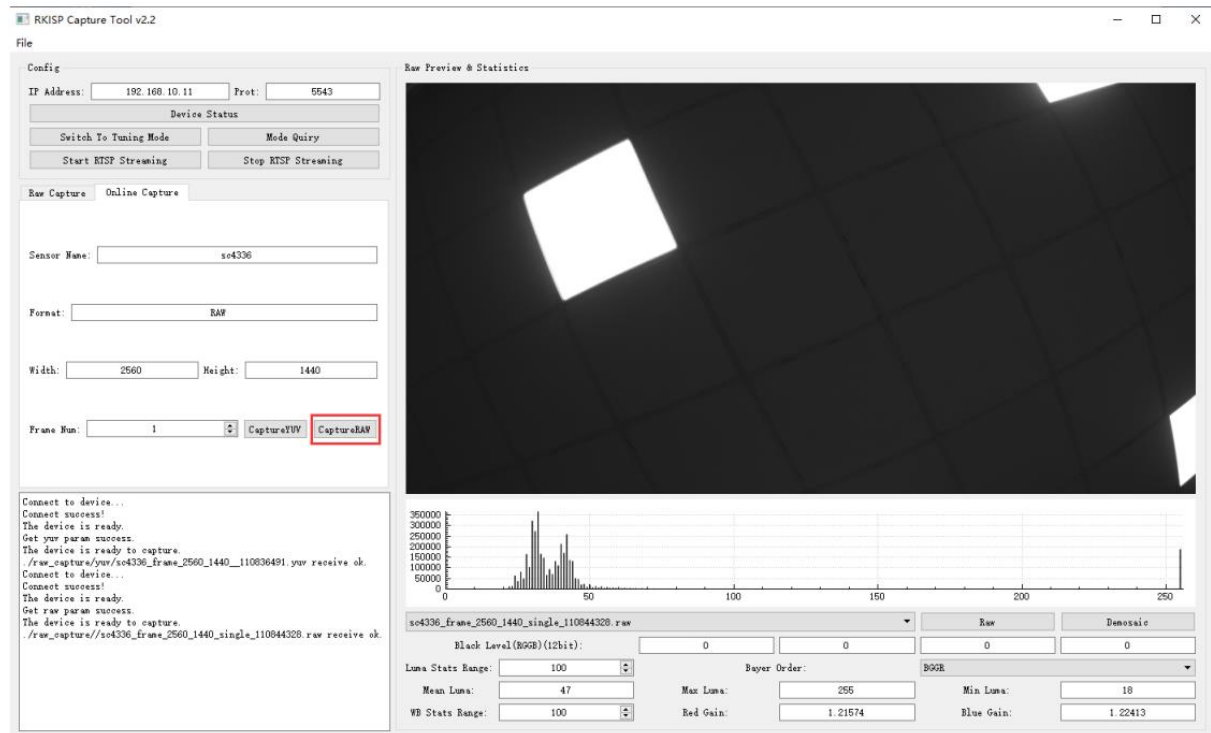

Figure 3-7-3-1
5. Click **Capture Raw**, the image can be viewed on the preview, the file will be stored in **raw\_capture/**, as shown in Figure 3-7-3-1: